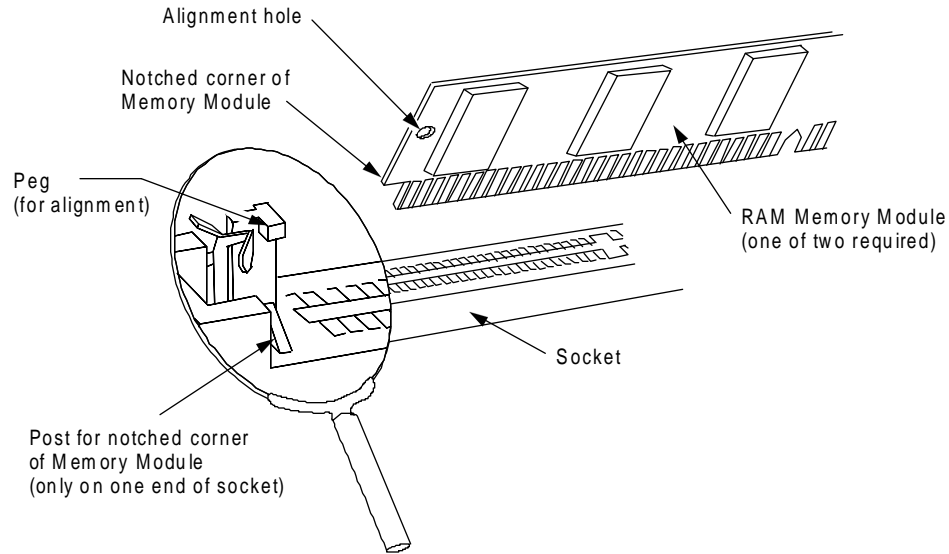

Figure 2-3: RAM Orientation
2. Orient the SIMM so that the notched corner of the SIMM is closest to the processor. This notch will fit over a post in this end of the socket. This post allows the SIMM to only be installed in the socket in the correct orientation (See **Figure 2-3**).